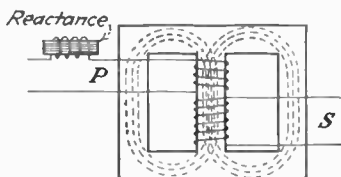

FIG. 25.—Closed-core transformer (shell type).
*Ans.* Figure 25 illustrates one of the most common types of closed-core transformers, the shell type. This type of transformer is used for both step-up or step-down purposes. Only the step-up type will be discussed here.
If the shell type of transformer is used, a resistance or reactance coil is usually connected in series with the primary winding to limit the rush of current during overload and thus protect the winding from burning out. See Fig. 25.